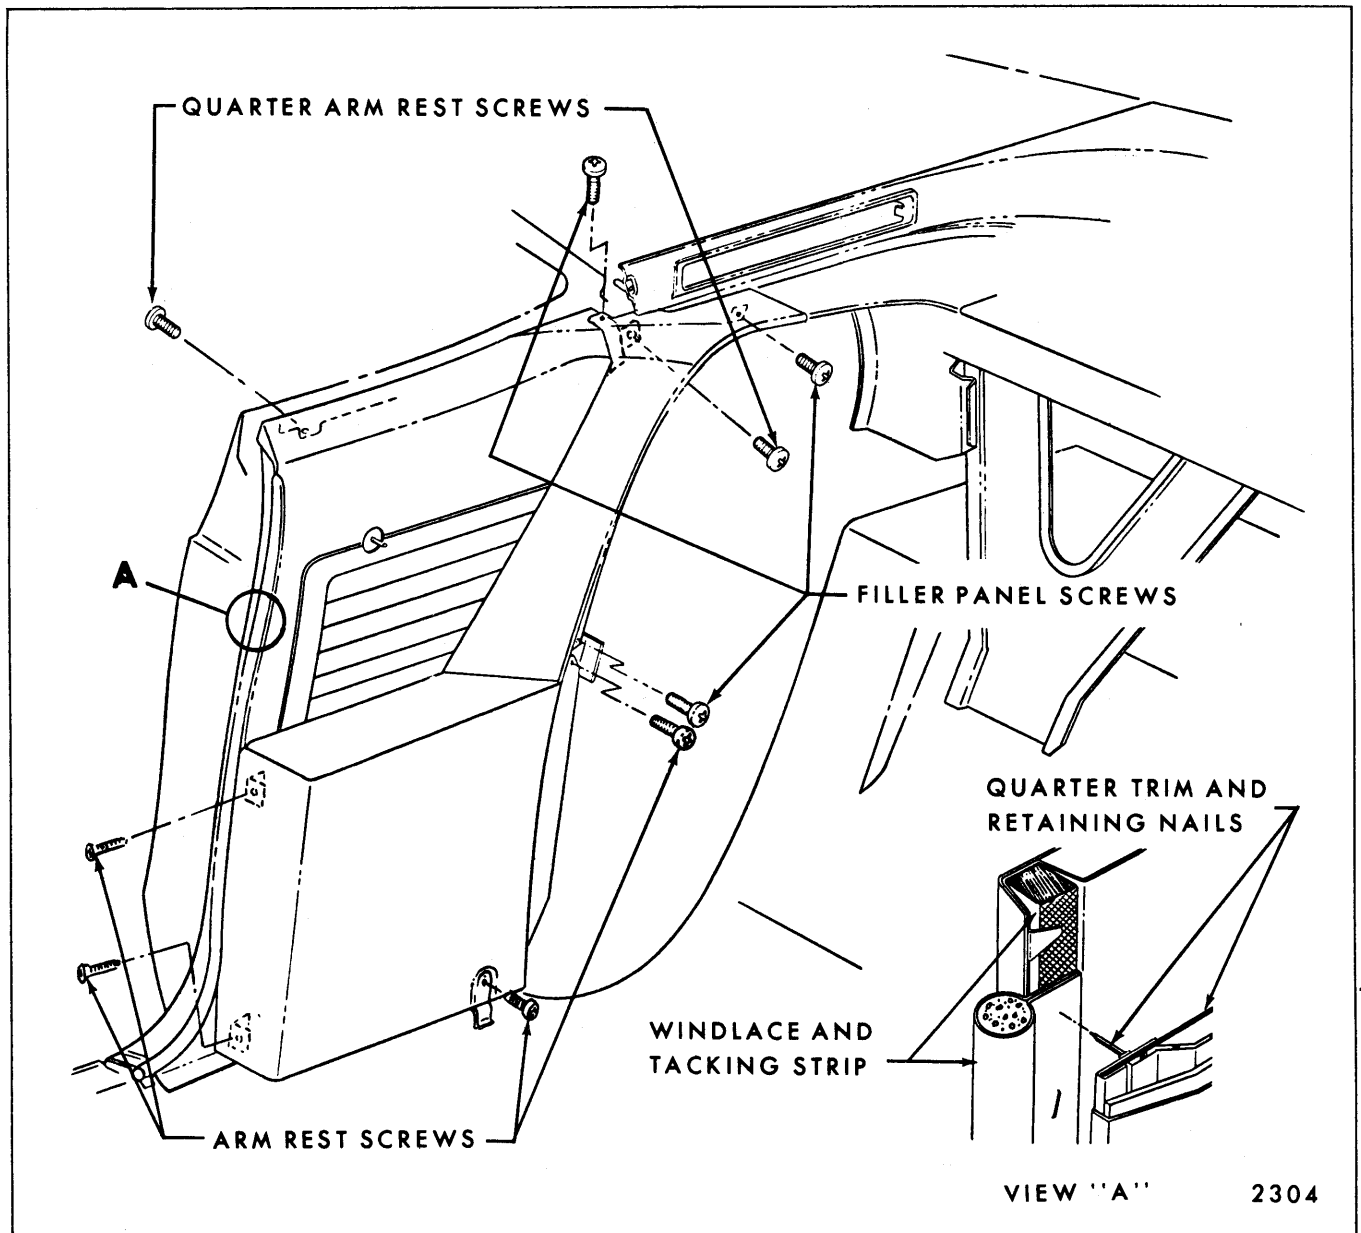

Fig. 14-35—Rear Quarter Trim Assembly - "39487" Style
2. a. On 39487 Style, remove seat back filler panel attaching screw (Fig. 14-35).
3. Remove compartment shelf side finishing panel attaching screws (Fig. 14-35) and remove side finishing panel. On Oldsmobile styles, disconnect courtesy lamp feed wire.